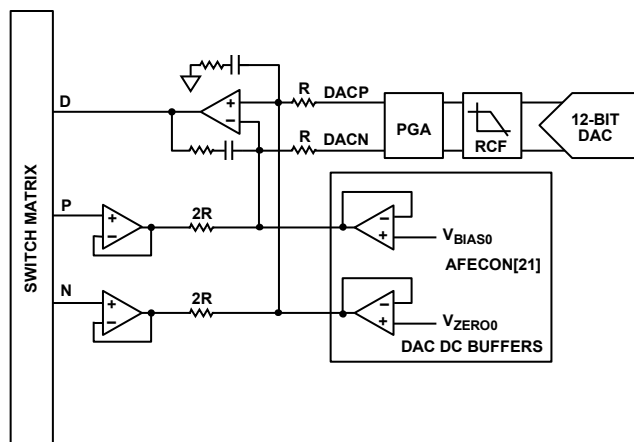
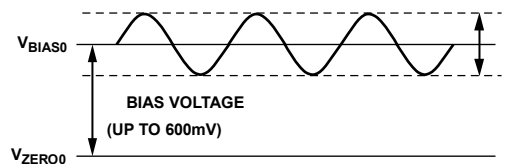

Figure 21. High Speed DAC Excitation Amplifier
Figure 22. Sensor Excitation Signal
Figure 21 illustrates the operation of the excitation amplifier and its connection to the switch matrix. There are four inputs to the excitation amplifier: DACP, DACN, positive (P), and negative (N). The high speed DAC is a differential output DAC where the positive and negative inputs feed directly to the excitation amplifier. The voltage difference between these two outputs sets the peak-to-peak voltage on the output waveform. The P and N inputs maintain the stability of the excitation amplifier by providing a feedback path from the sensor, and set the common-mode for the high speed DAC output. Under normal circumstances, the common mode is set by the V_{ZERO0} output connected to the N input. There is also an option to apply a dc bias voltage to the sensor and couple an ac signal onto this bias, as shown in Figure 22.
An option is available if the sensor requires a bias voltage between the counter and sense electrode. V_{BIAS0} sets the voltage on the counter electrode (the common-mode voltage of the high speed DAC) and V_{ZERO0} sets the voltage on the sense electrode. V_{ZERO0} must be connected to the positive terminal on the high speed TIA (HSTIACON, Bits[1:0] = 01). The dc buffers of the DAC must also be enabled by setting AFECON, Bit 21. With this configuration, a waveform can be achieved, as shown in Figure 22. The bias across the sensor is effectively the difference between V_{BIAS0} and V_{ZERO0} .
2. The DAC dc buffers must be enabled (AFECON, Bit 21 = 1). Figure 21 shows the connection of the dc buffers to the excitation amplifier. These buffers enable the low power DAC outputs to drive the required bias voltage to the excitation amplifier and the high speed TIA.